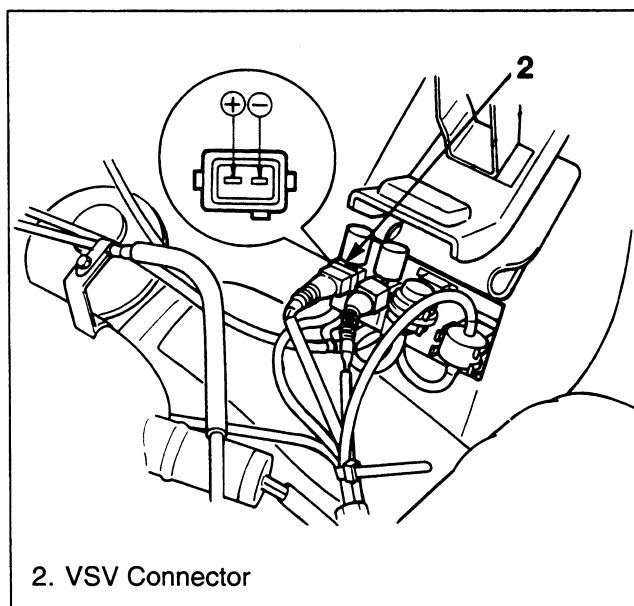

Figure 15. Fast Idle Speed Adjustment
Adjust (Figure 15)
8. Apply battery voltage between VSV terminals (figure 15).